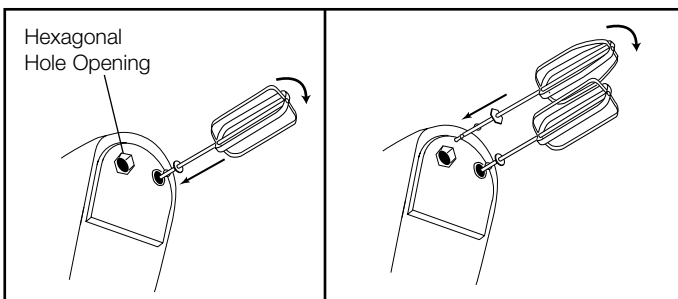

Figure 1
NOTE: The Left-hand Dough Hook and Beater have a small round metal washer collar around the top of their stems. The Right-hand Dough Hook and Beater have a hexagonal collar around the top of their stems. The attachment with the hex collar is to be inserted into the matching hole in the bottom of the Mixer. See Figure 1.
3. Push attachment stem into Mixer hole and rotate until it locks into position. See Figure 1. The attachment will fit snugly into the hole. Repeat for second attachment.